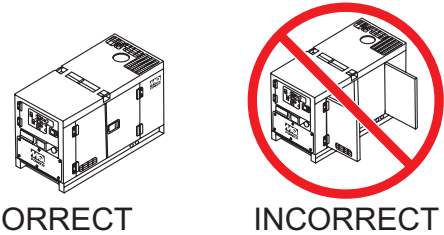

Figure 44. Engine Enclosure Doors
4. Close all engine enclosure doors (Figure 44).